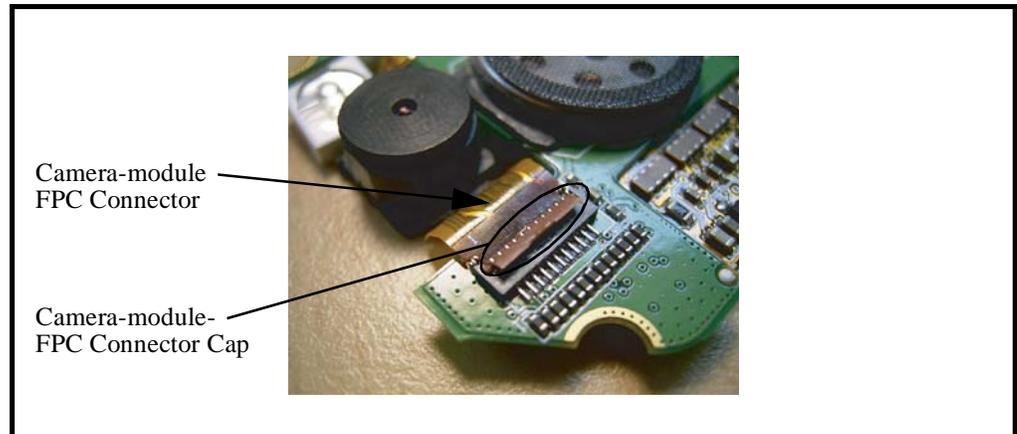

**Figure 14. Removing the Receiver**
2. Use a tweezers to remove the receiver from the front case as shown in Figure 14.